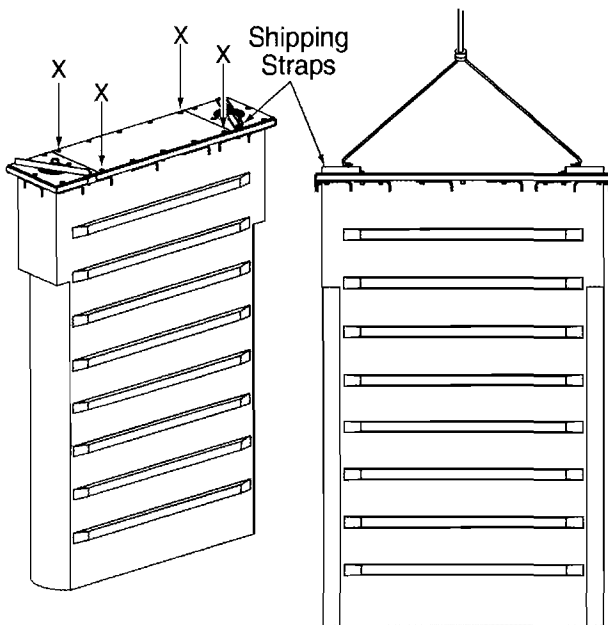
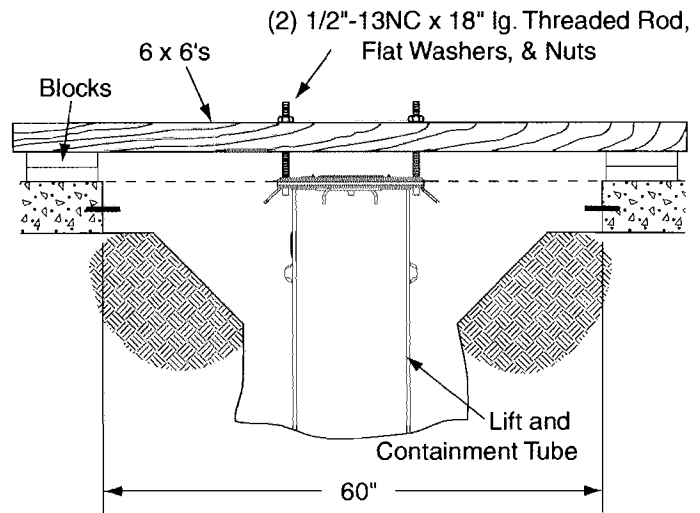

Fig. 3
Fig. 4
A. Chain hoist must have capacity of 2,500 lbs. with a clear swing of 9' 0". Rig sling for unit, attaching to the shipping strap, Fig. 3, and lower assembly into hole. Center lift and be sure lift containment inlet is located as shown in Fig. 1.
C. Remove and retain (4) 1/2"-13NC HHCS (marked with X, Fig. 3). Insert 1/2" Threaded Rods x 18" lg. into the holes and secure in place using 1/2" flat washers and nuts, Fig. 4.
D. Attach 6 x 6's to support unit on existing floor and secure in place with 1/2" flat washers and nuts, Fig. 4. Remove shipping straps and install guide barrel bolts in open holes and torque to 60 ft-lbs. Remove protective covers from top of jacks.